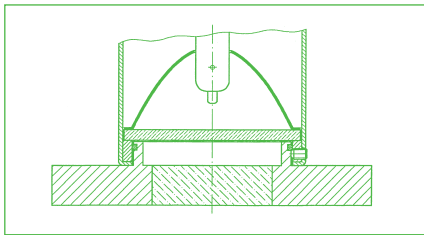

Fig. 1
1. The luminaire fits over and is secured around a special circular male upstand on the cover flange. An O ring provides the seal to the sightglass side. (see fig. 1).